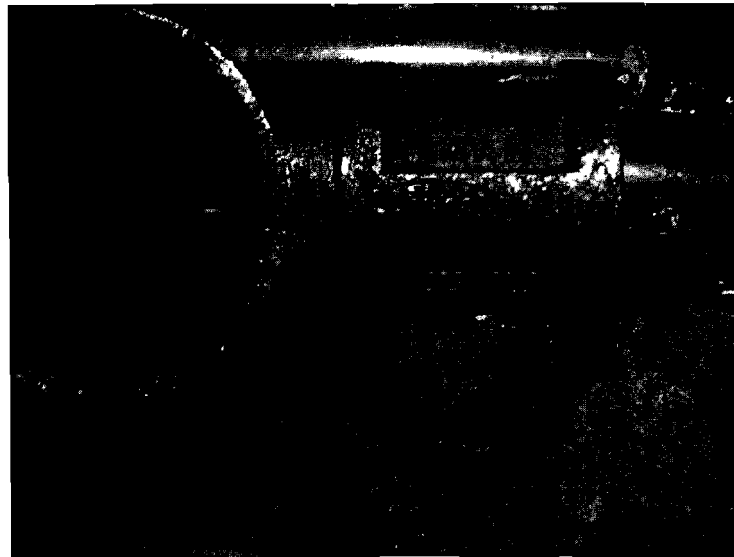

Figure 2
3. The lot number is located as illustrated (See Fig. 2). Inspect both castings (each end) on the adjustable torque rod. This number appears on one side of the casting.